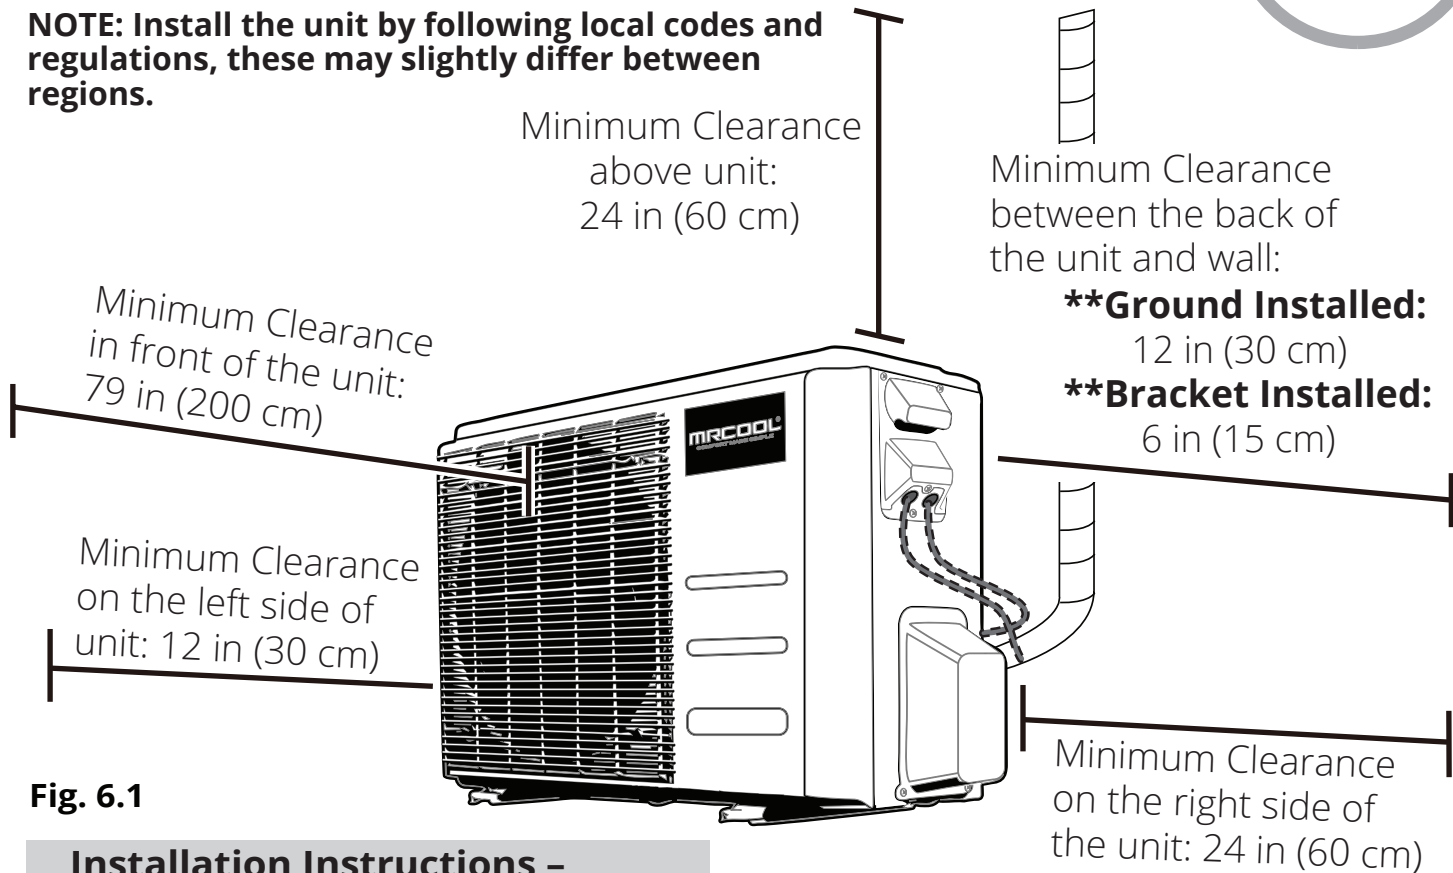

Fig. 6.1
- ✓ Meets all spatial requirements shown in the illustration above (Fig. 6.1)